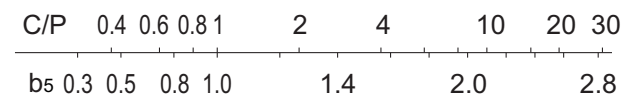

Fig.2 Material Factor
- b5 : Material factor (see Fig.2)